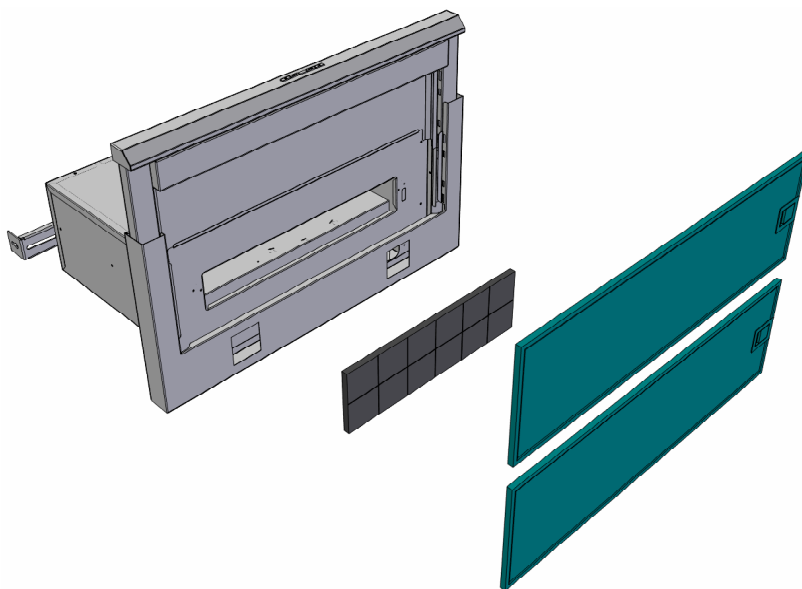

Fig. 4
**2.3 - AKTIVKOHLENFILTER (Abb. 4)
**2.3 - ACTIVATED CARBON FILTERS (Fig. 4)
**2.3 - FILTRES AU CHARBON ACTIF (Fig.4)
**2.3 - FILTRI AL CARBONE ATTIVO (Fig.4)
**2.3 - FILTRE MED AKTIVT KUL (Fig. 4)
**2.3 - KOOLSTOFFILTERS (Fig.4).